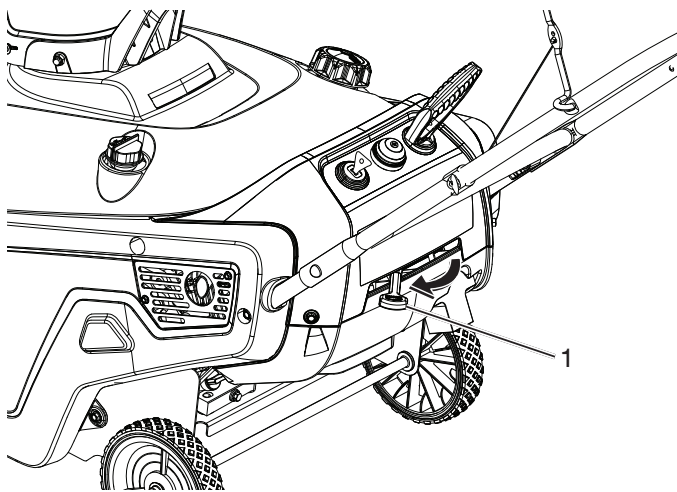

Figure 11
2. Move choke lever to left position (Figure 11).